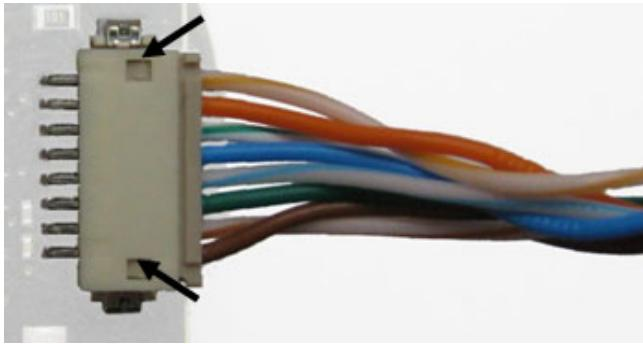

Figure 13: phyCAM-S: Hirose type camera connector
- Plug the Hirose side into the matching connector of the camera module. The Hirose plug has two guide grooves on the top side. The socket is protected against misinsertion. Assure that the notches of the socket match to the detents of the plug (see *Figure13*).